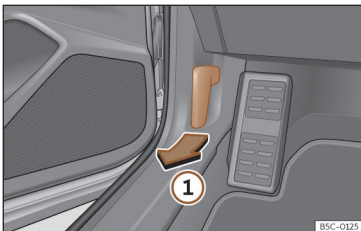

Fig. 189 Release lever in the driver's footwell area.
- Open the door and pull the lever that is underneath the instrument panel >>> **Fig. 189** ①.